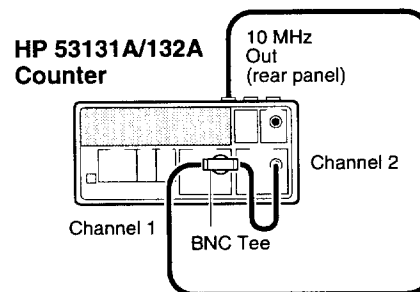
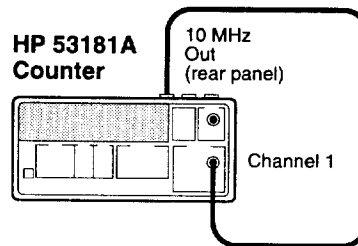

Figure 1-1A. Operational Verification Setup for HP 53131A/132A
Figure 1-1B. Operational Verification Setup for HP 53181A
- 7 Connect the Counter's rear-panel **10 MHz Out** as shown in Figure 1-1A or Figure 1-1B, depending on which Counter you are testing.